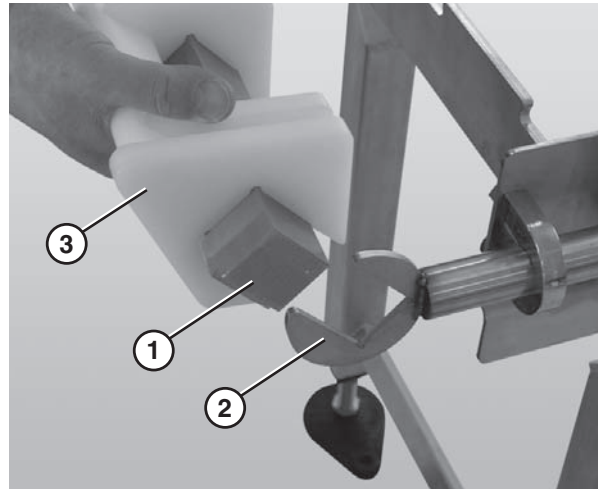

Figure 60
1. Slide the nose bar drive or transfer post (**Figure 60, item 1**) out of the nose bar drive weldment or idler hands (**Figure 60, item 2**).
2. Remove the nose bar tracking pucks (**Figure 60, item 3**), if applicable.